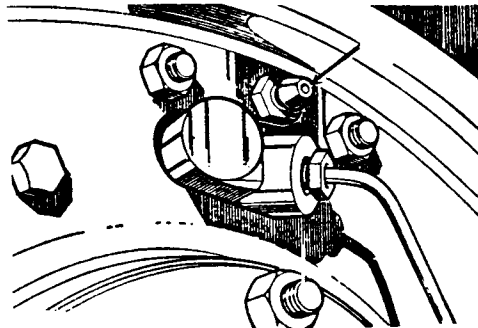

Fig K1.38
- (2) Refer to Fig K1.38. Attach a bleed tube to the bleed nipple farthest from the master cylinder. Submerge the tube free end in brake fluid in a transparent container.
- (3) Slacken the bleed nipple a half-turn.